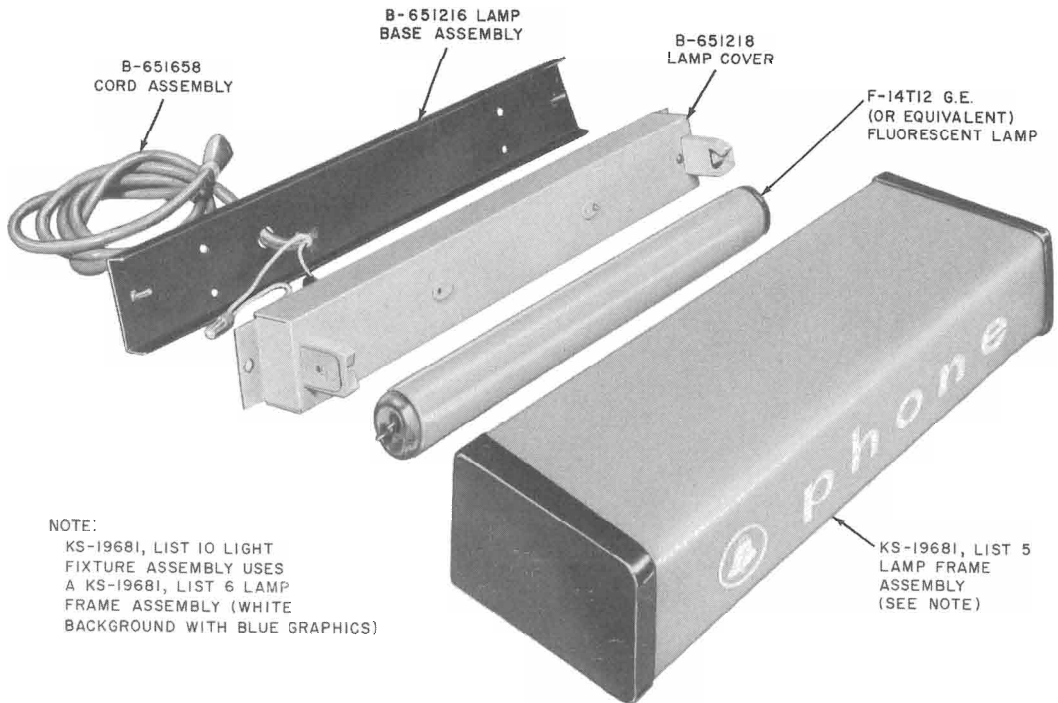

Fig. 6—KS-19681, List 9 Light Fixture Assembly
* KS-19681 illuminated signs may be ordered separately. See Fig. 6 for component parts identification.
- (1) Remove tamper resistant screw at top center of shelf using a KS-19192, List 1 wrench.
- (2) Remove sign to the left and pull away from shelf.
- (3) Install new sign, using reverse procedure.
- 4.06** To replace KS-19681, List 9 or List 10 sign (Fig. 6) with same type sign:
- (1) Remove sign as in 4.05 (1) and (2).
- (2) Insert four plasti-grommet inserts (Fastex Div. of Ill. Tool Works No. 242-180602-90-0101-) (furnished with light fixture) in the four mounting holes.
- (3) Disassemble the sign to make wiring accessible (Fig. 6).
- (4) Remove wire nuts and disconnect lamp cord from ballast and lamp holder.
- (5) Run a fish tape through entrance hole in rear of shelf and down wire channel until it is accessible at bottom of shelf.
- (6) Tie lamp cord to fish tape and pull it up into position.
- (7) Install base assembly on shelf using the four No. 8 by 3/4 Phillips head self-tapping screws furnished with light fixture.
- (8) Reconnect lamp cord to ballast and lamp holder.
- (9) Install cover on base assembly.
- (10) Install fluorescent lamp (G.E. No. F14T12 or equivalent).
- (11) Install frame and diffuser and secure them with the four No. 8-32 by 1/2 stainless steel screws.
- (12) Plug lamp cord into wall socket.